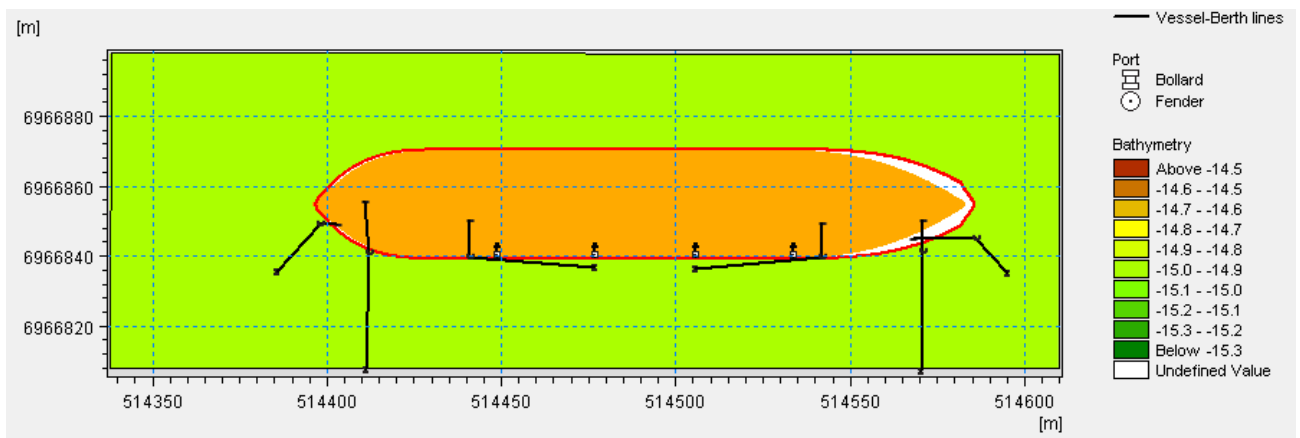

Figure 3.18 Moored vessel in port domain with mooring system connected
- The image shown in Figure 3.18 should show up on your screen showing the berth pocket depth (constant 15 m), vessel and shore based connection points and the vessel position.